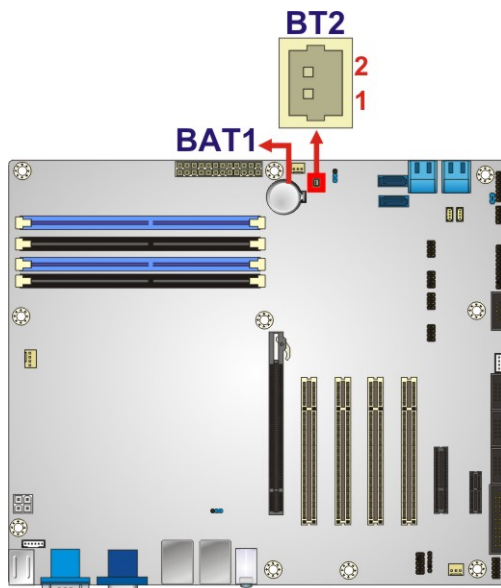

Figure 3-3: Battery Connector Locations
- CN Location:** See **Figure 3-3**